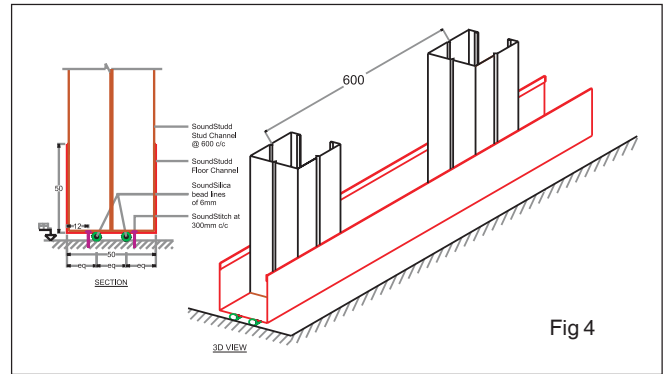

Fig 4
SoundStudd™ Stud Channels (SC) of specified depth, usually 48 mm, are then inserted in the FC/HC and twisted into position at 600 mm centres. (See Fig 4)